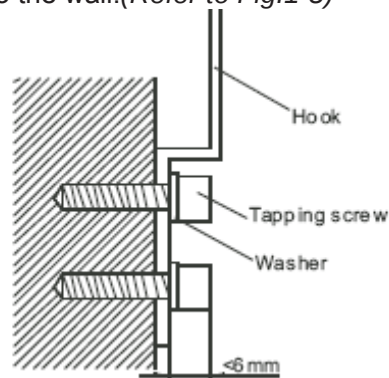

Fig.1-8
1. Fix the hook with tapping screw onto the wall. (Refer to Fig.1-8)